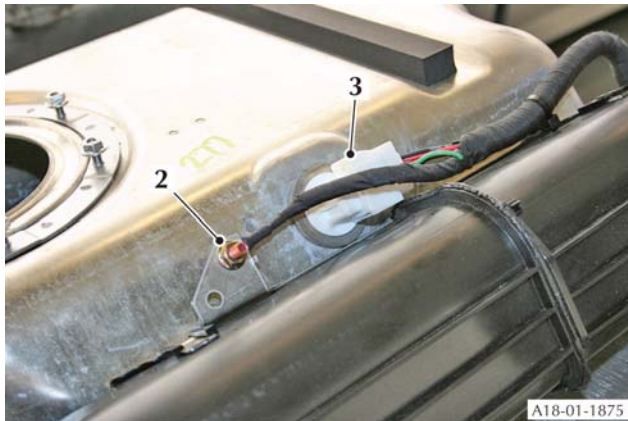

Figure 1
2. Remove the nut (2) that attaches the earth connection for the harness to the fuel tank and release earth connection from the stud (Refer to Figure 1).